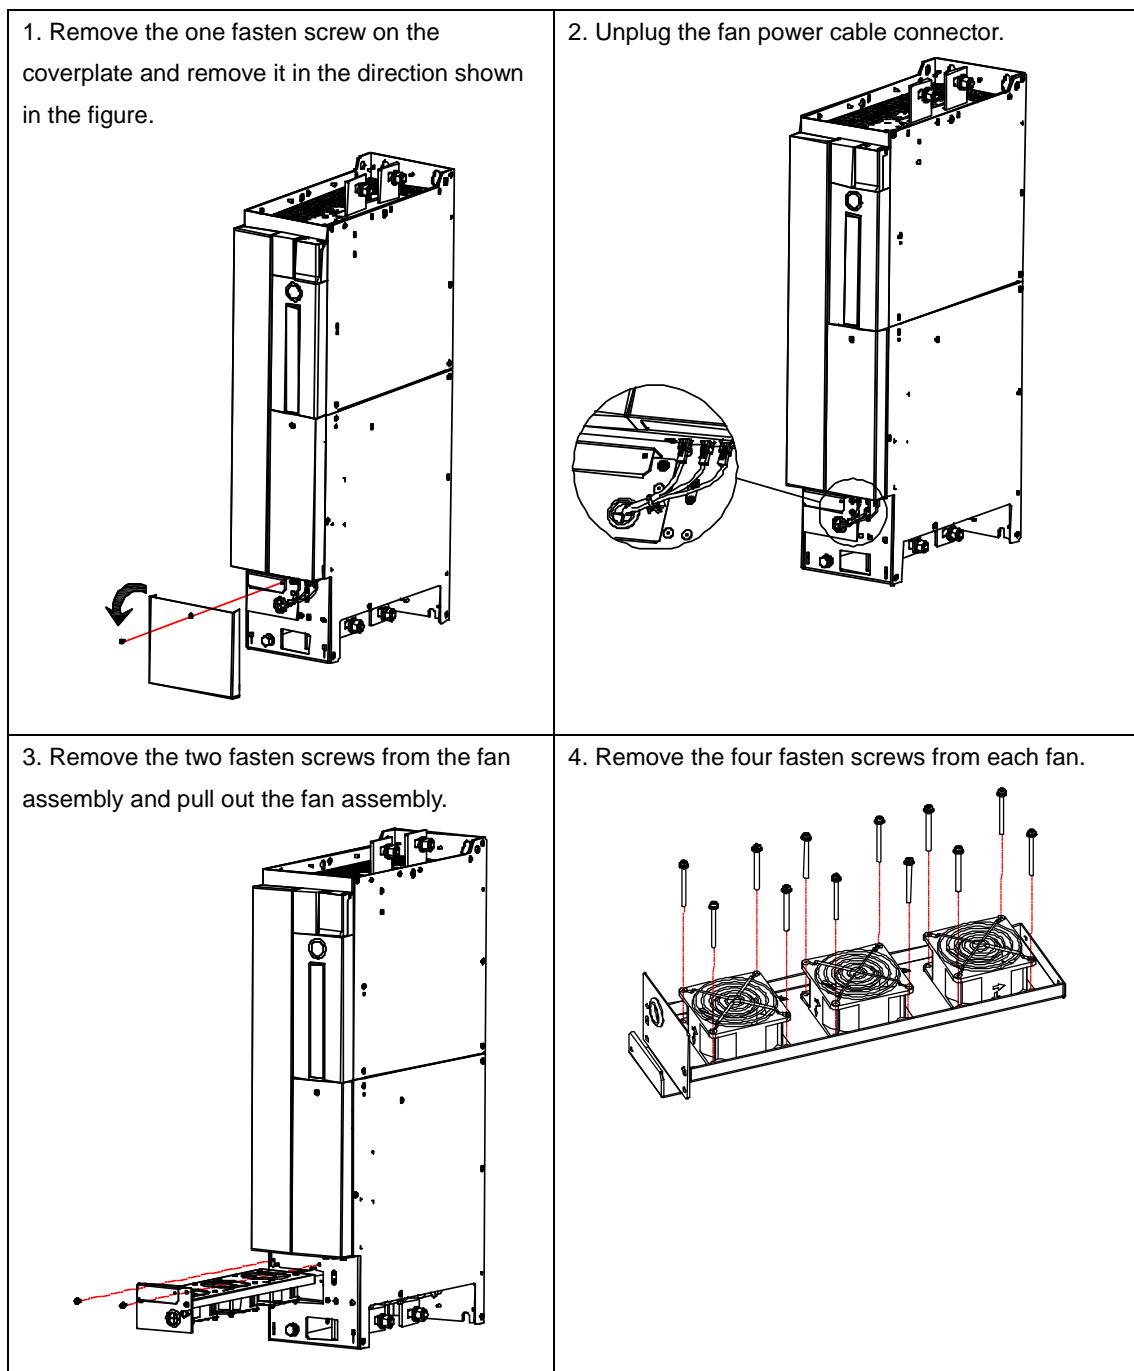

Figure 9-2 Fan maintenance for the 355kW rectifier unit model
5. Install the new fan inside the VFD, connect the pluggable terminal of the fan cable in the reverse order, put the fan into the corresponding position of the VFD, and fasten the fan coverplate. Ensure that the air direction of the fan is consistent with that of the VFD, as shown in Figure 9-2.